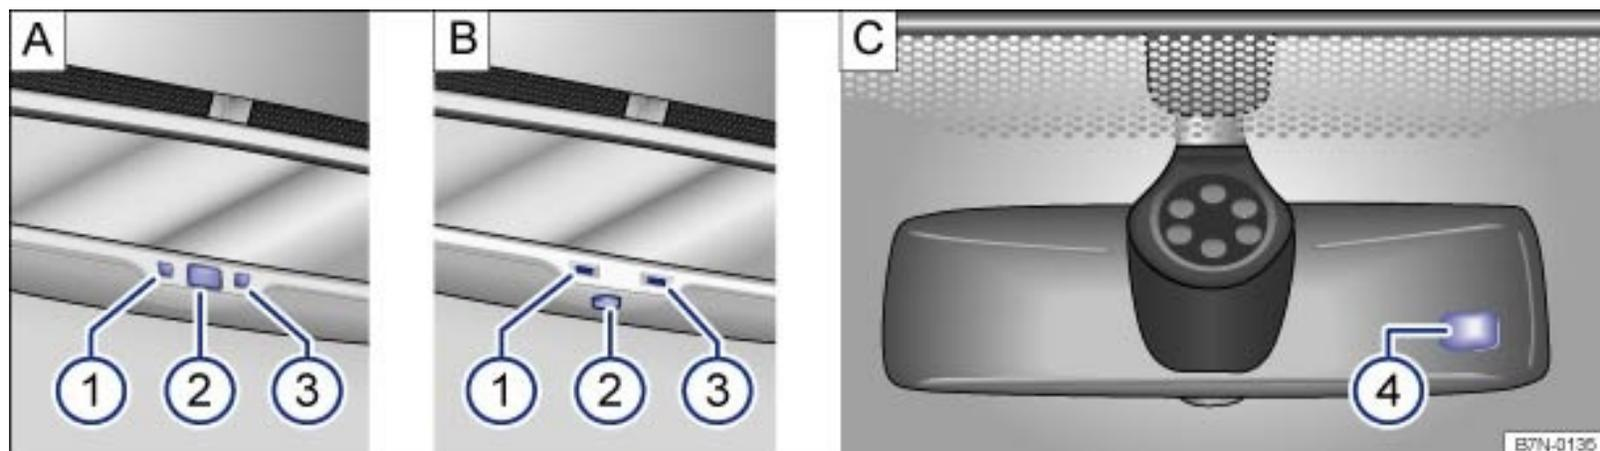

Fig. 94 Self-dimming rearview mirror (if equipped).
Key to → Fig. 94:
② Switch
③ Sensor for recognizing the entry of light from the rear
④ Sensor for registering light from the front
The self-dimming feature can be switched on and off with the switch on the inside mirror → Fig. 94 A ② or → Fig. 94 B ②. When self-dimming is activated, the indicator light ① is on.
- ▶ One sensor on the side facing the interior to measure light from the rear of the vehicle → Fig. 94 A ③ or → Fig. 94 B ③.
- ▶ One sensor on the side facing the windshield to measure light from the front of the vehicle → Fig. 94 C ④.